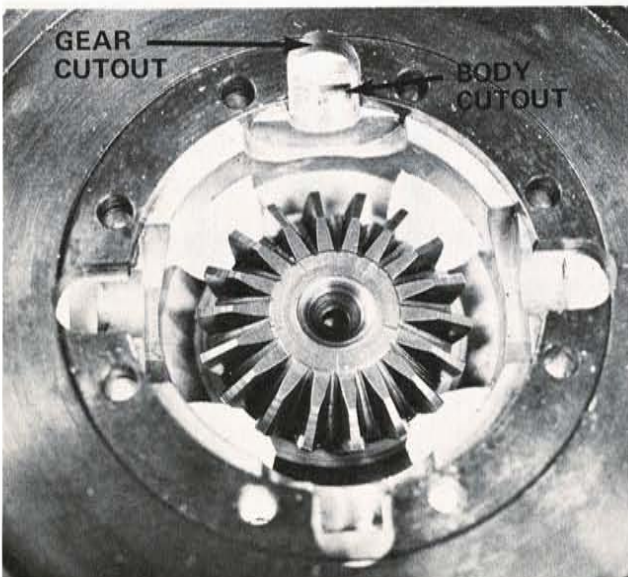

Fig 17
2. Install 85 tooth differential gear. Cutouts in gear must align with cutouts in differential body. (Fig 17)